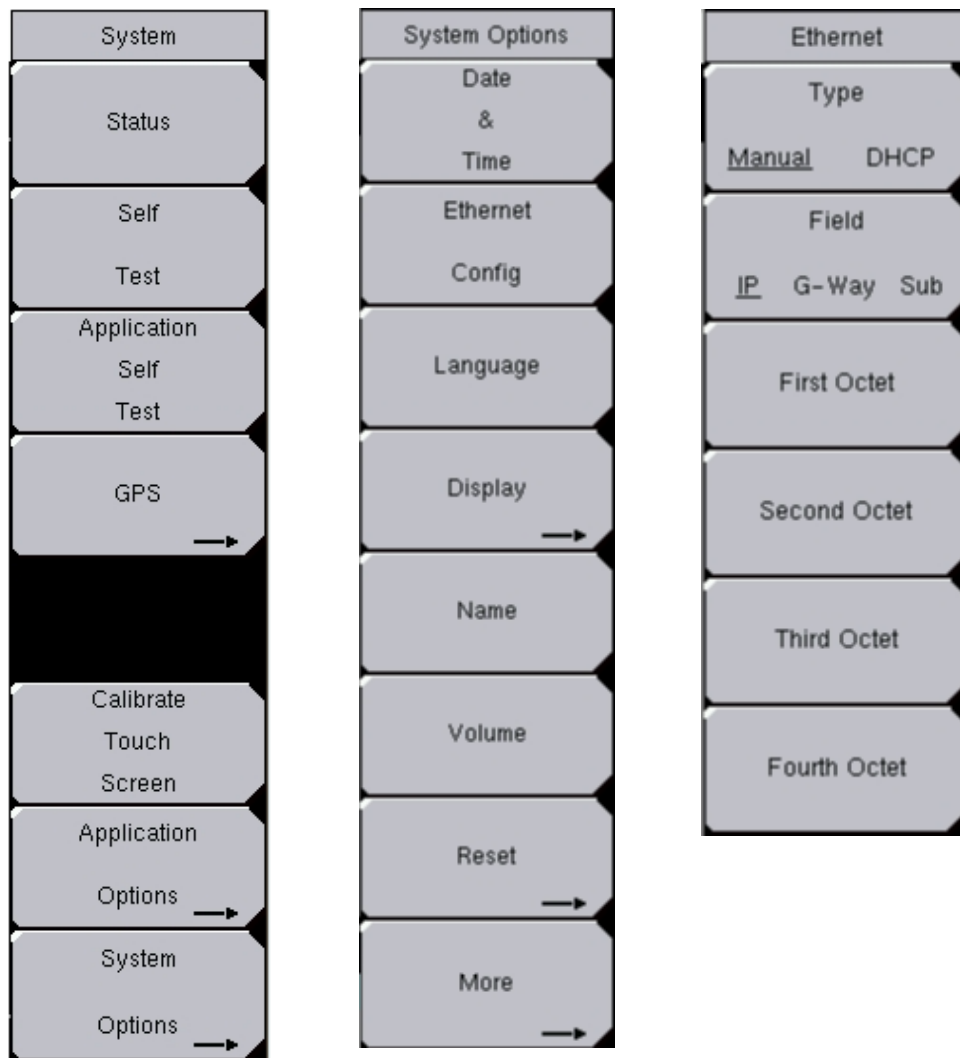

Figure 2-8. BTS Master Instrument System, System Options, Ethernet Menus
1. On the test instrument, press the **Shift** key, then the **System [8]** key. The test instrument's System menu displays, see Figure 2-8 (left).
- Press the System Options soft key, see Figure 2-8 (left), then the Ethernet Config soft key, see Figure 2-8 (middle). The Ethernet Editor displays and the Ethernet menu, see Figure 2-8 (right) displays along the right side of the instrument display.